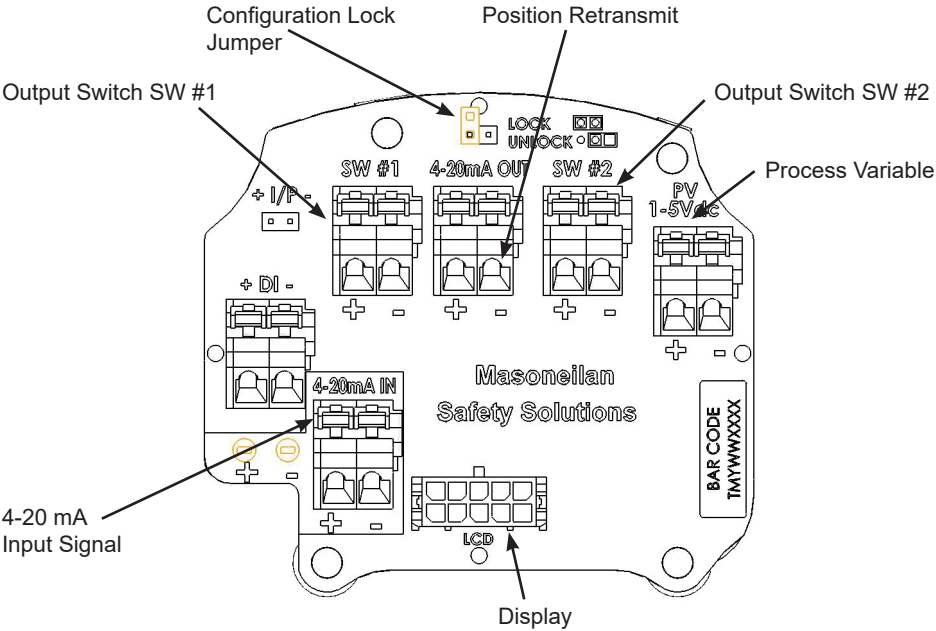

Figure 15 - Connections to ASD Electronics Module (via Terminal Board)
2. Connect the +/- terminals from the 4-20 mA Out to the position retransmit input signal: + to + and - to -. See Figure 15 on page 44.
1. Loosen the four (4) cover screws and remove the cover of the SVI II ESD.
2. Connect the +/- terminals of the current source to the 4 - 20mA IN connector (on the terminal board). The current source + must connect to the terminal board connector +, and the same for -. See Figure 15 on page 44.
2. Locate the correct terminal block on the terminal board (see Figure 15 on page 44).